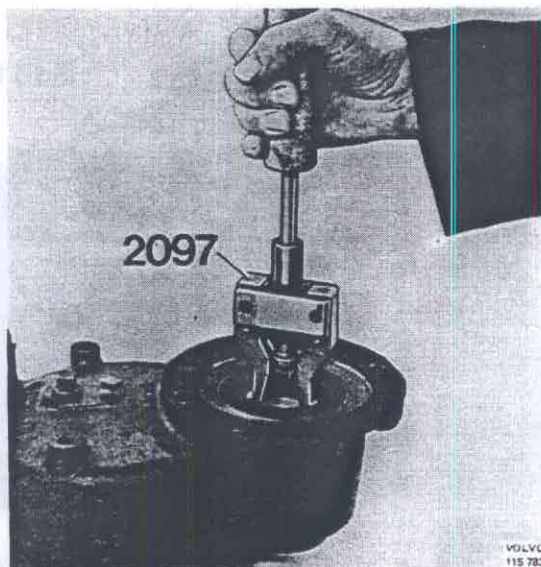

Fig. 46-115. Removing the seal
5. Remove the seal with 2097, Fig. 46-115.